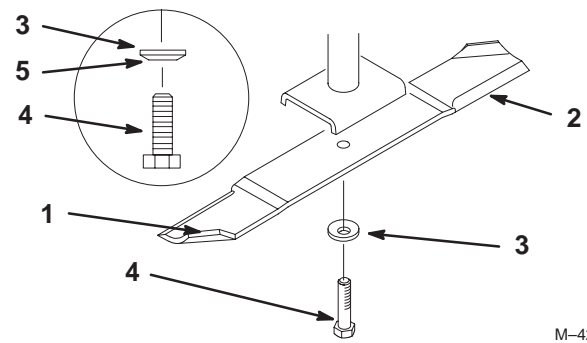
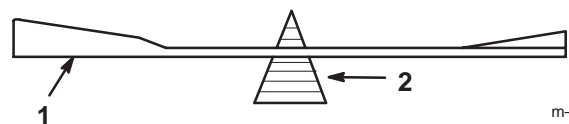

Figure 32
Figure 34
Hold the blade end using a rag or thickly-padded glove. Remove the blade bolt, spring disk, and blade from the spindle shaft (Fig. 32).
2. Check the balance of the blade by putting it on a blade balancer (Fig. 34). If the blade stays in a horizontal position, the blade is balanced and can be used. If the blade is not balanced, file some metal off of the end of the sail area only (Fig. 32). Repeat this procedure until the blade is balanced.
1. Install the blade onto the spindle shaft (Fig. 32).
2. Install the spring disk and blade bolt. The spring disk cone must be installed toward the bolt head (Fig. 32).